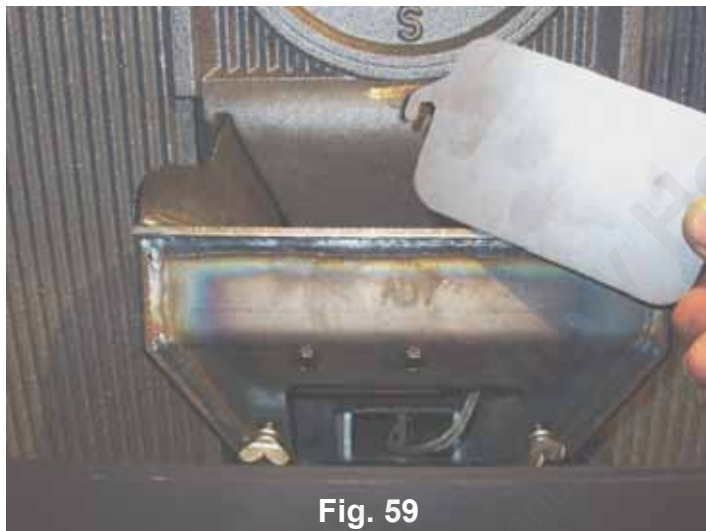

Fig. 59
- Loosen the (2) wing thumb screws on the lower front angle of the burn pot. (Fig. 59)
- Lift off the clean-out cover (Fig.59) to open the bottom clean-out chamber. (Fig.60)